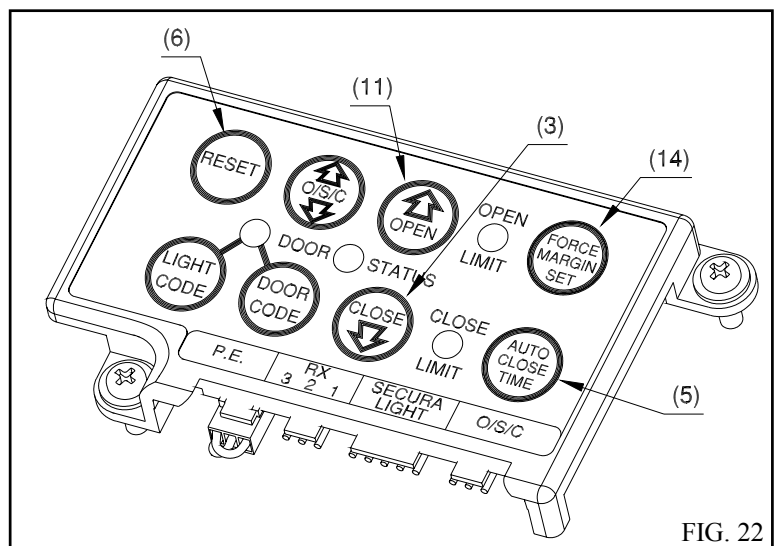

FIG. 22
1. Press in together and hold the Auto Close Time button 5 and Force Margin Set button 14 ( FIG. 22).
2. While holding in the two buttons, press the green Open button 11 ( FIG. 22). Each press of this button will add 10 seconds to the light time.
3. To decrease the time follow step 1 and press the red Close button 3 (FIG. 22). Each press will deduct 10 seconds from the light time.
4. To recall the factory set default light time press in and hold together the Auto Close Time button 5, the Force Margin Set button 14 and the Reset button 6 for about 2 seconds. (FIG. 22).